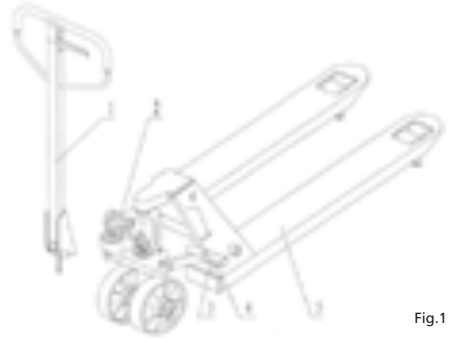

Fig.1
- Press the draw-bar) down, take away the pin(#2) (See Fig. 1).
- Let the control handle on 'RAISE' position, then raise the lever plate with the pin (#2) and insert the adjusting bolt(103) into the front slot of lever plate , note to keep the adjusting nut on the under side of the lever plate.